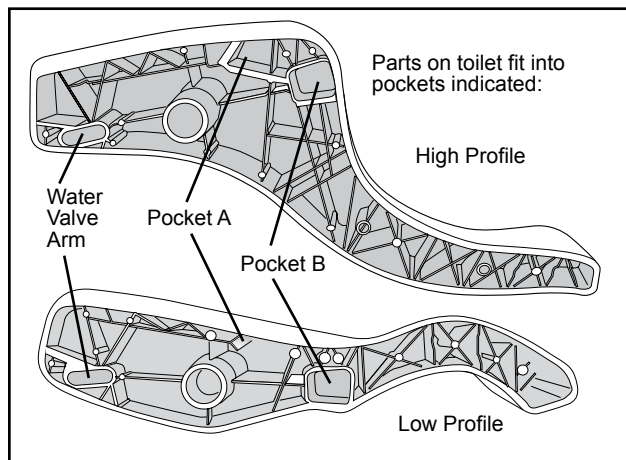

FIGURE 3 - PEDAL REATTACHMENT
6. (Fig. 3) Align Pedal onto Pedal Pivot. Align Pedal Return Spring Tab with Pocket A and rotate Pedal slightly until Drive Arm Pin aligns with Pocket B. Holding Pedal down, firmly hit button on outside of Pedal until Pedal snaps in place.